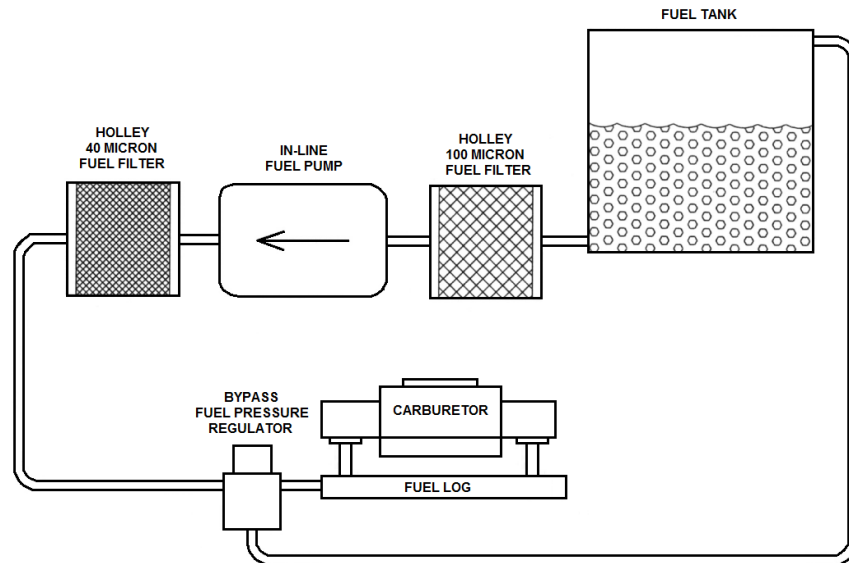
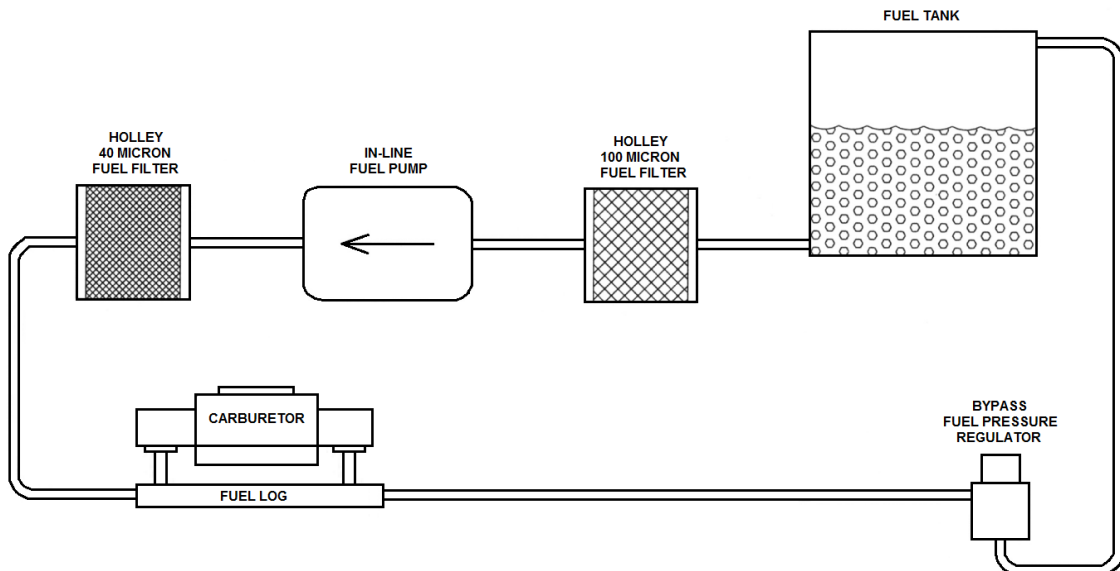
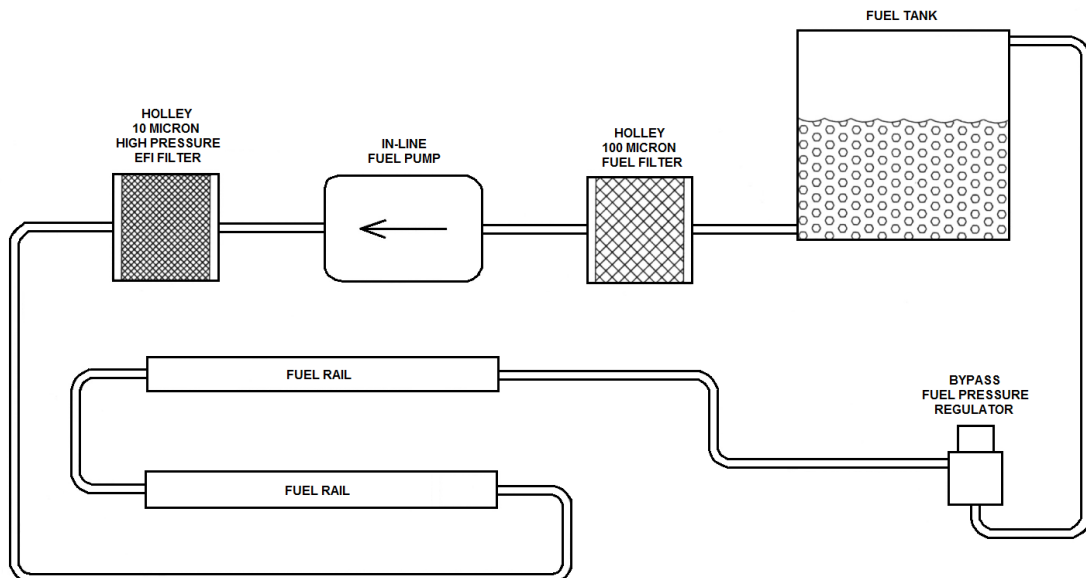

Figure 2a (Carburetor Only)
Figure 2b (Carburetor Only)
Figure 2c (EFI Only)
4. Connect the outlet of the regulator to the carburetor (if the regulator is installed before the carburetor **per Figure 2a**). If the regulator is installed after the carburetor (**Figure 2b**) or EFI (**Figure 2c**), the outlet needs to be plugged.